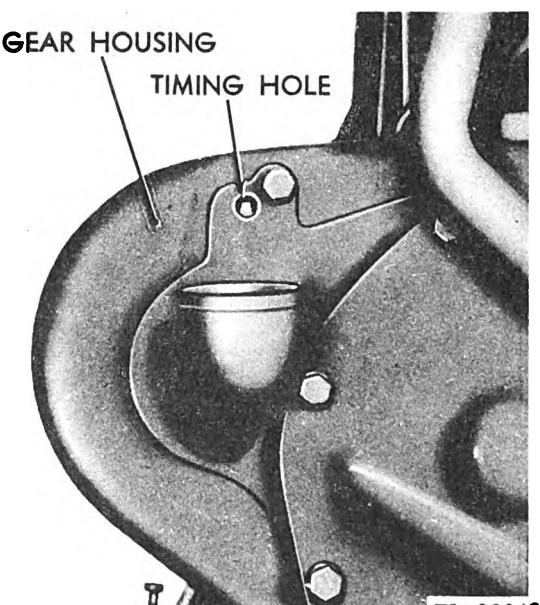

Fig. 190. Fuel Pump Gear Housing Timing Hole
(3) Slip the fuel pump into the gear housing, as shown in Figure 81, meshing the gears so that the marked tooth of the fuel pump gear centers as close as possible in the  $\frac{1}{4}$ -inch pipe plug hole in the gear housing. (See Figure 190.) Tighten the five nuts and one through bolt holding the adaptor to the gear housing.